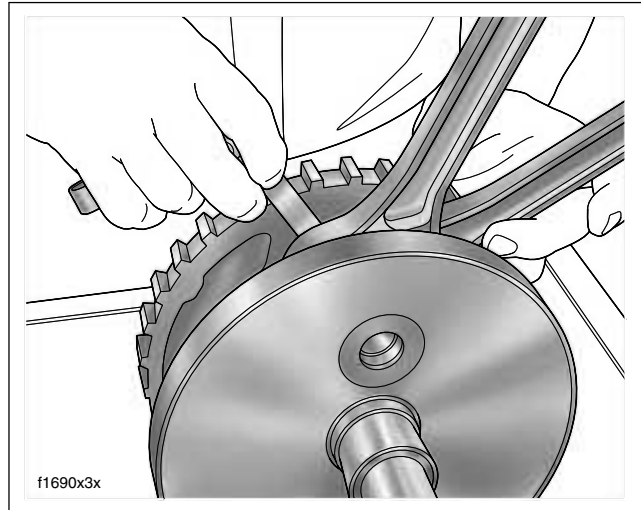

Figure 3-133. Check Connecting Rod Side Play
3. Insert a feeler gauge between the thrust washer and the outboard side of the connecting rod. See Figure 3-133. Replace the assembly if rod side play exceeds 0.020 inch (0.51 mm).